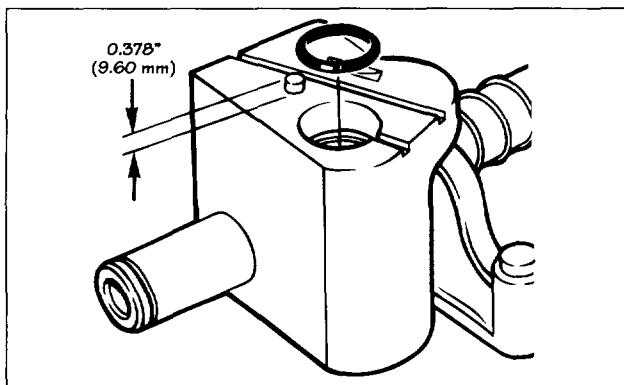

FIG. 8
6. Pin must extend 0.3878" (9.60 mm) from the bottom side of the bracket (see Fig. 8).
7. Install a new Caterpillar O-ring seal in the rear support bracket (see Fig. 8).